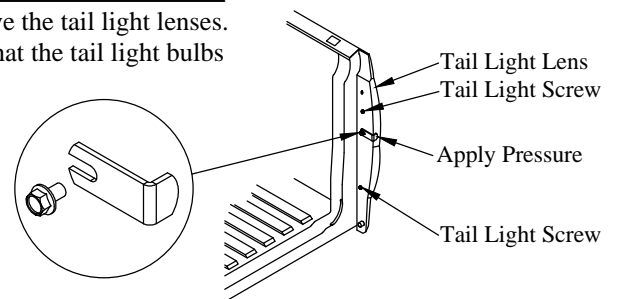

Figure 7: Tail light modification detail.
1. **Remove** four (4) factory tail light screws, two (2) per side (Figure 7).
2. **Remove** tail light lenses (Figure 7).
5. **Install** M8 x 1.25 x 12 bolts and tail light clips (supplied) in the tailgate cable catch bolt locations (Figure 7).
6. **Apply** pressure to the tail light and clip from the rear while tightening the bolt (Figure 7).
27. **Install** the tail lights. This is covered in a previous section, "Modifying the Tail Light Mount" (Figure 7).